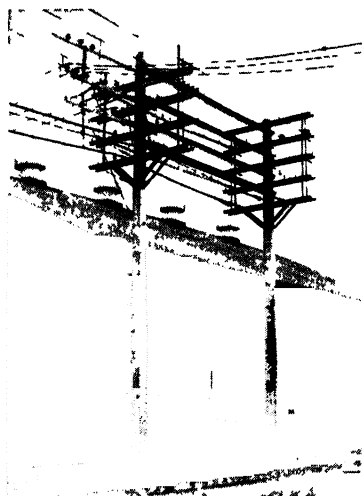

FIG. 2-15. Overhead feeder lines leaving the generating station (Courtesy Oklahoma Gas and Electric Co.)
**Feeders.** Feeders are the conductors in a distribution system which extend from the substation (or central station, if the town is small) to the various distribution centers. No circuits or branches should be connected to feeders between these two points. Feeders may be overhead or underground. Figure 2-15 shows overhead feeders leaving a generating station. These radiate in all directions from the station.